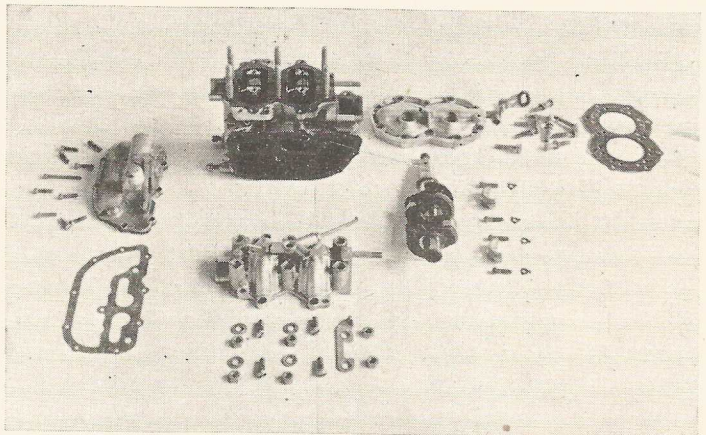

Fig. 39
3. Place a drop or two of oil on each of the three bearings in the cylinder assembly — also a drop or two on each connecting rod bearing. Install crankshaft. Attach connecting rods to crankpins as in Fig. 39. Do not neglect bending small lug on lock plate up to prevent connecting rod screw from turning.